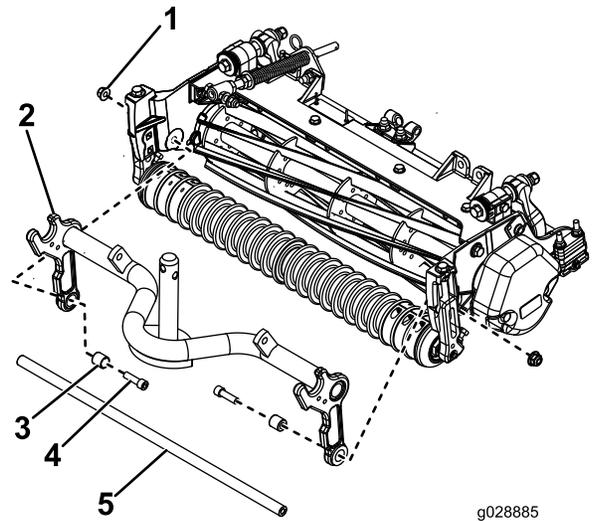

Figure 9
1. Unthread the 2 flange-head bolts securing the support tube and the cutting-unit carrier frame to the cutting-unit side plates (Figure 9). Do not pull the bolts all the way out of the carrier frame. Remove the support tube.